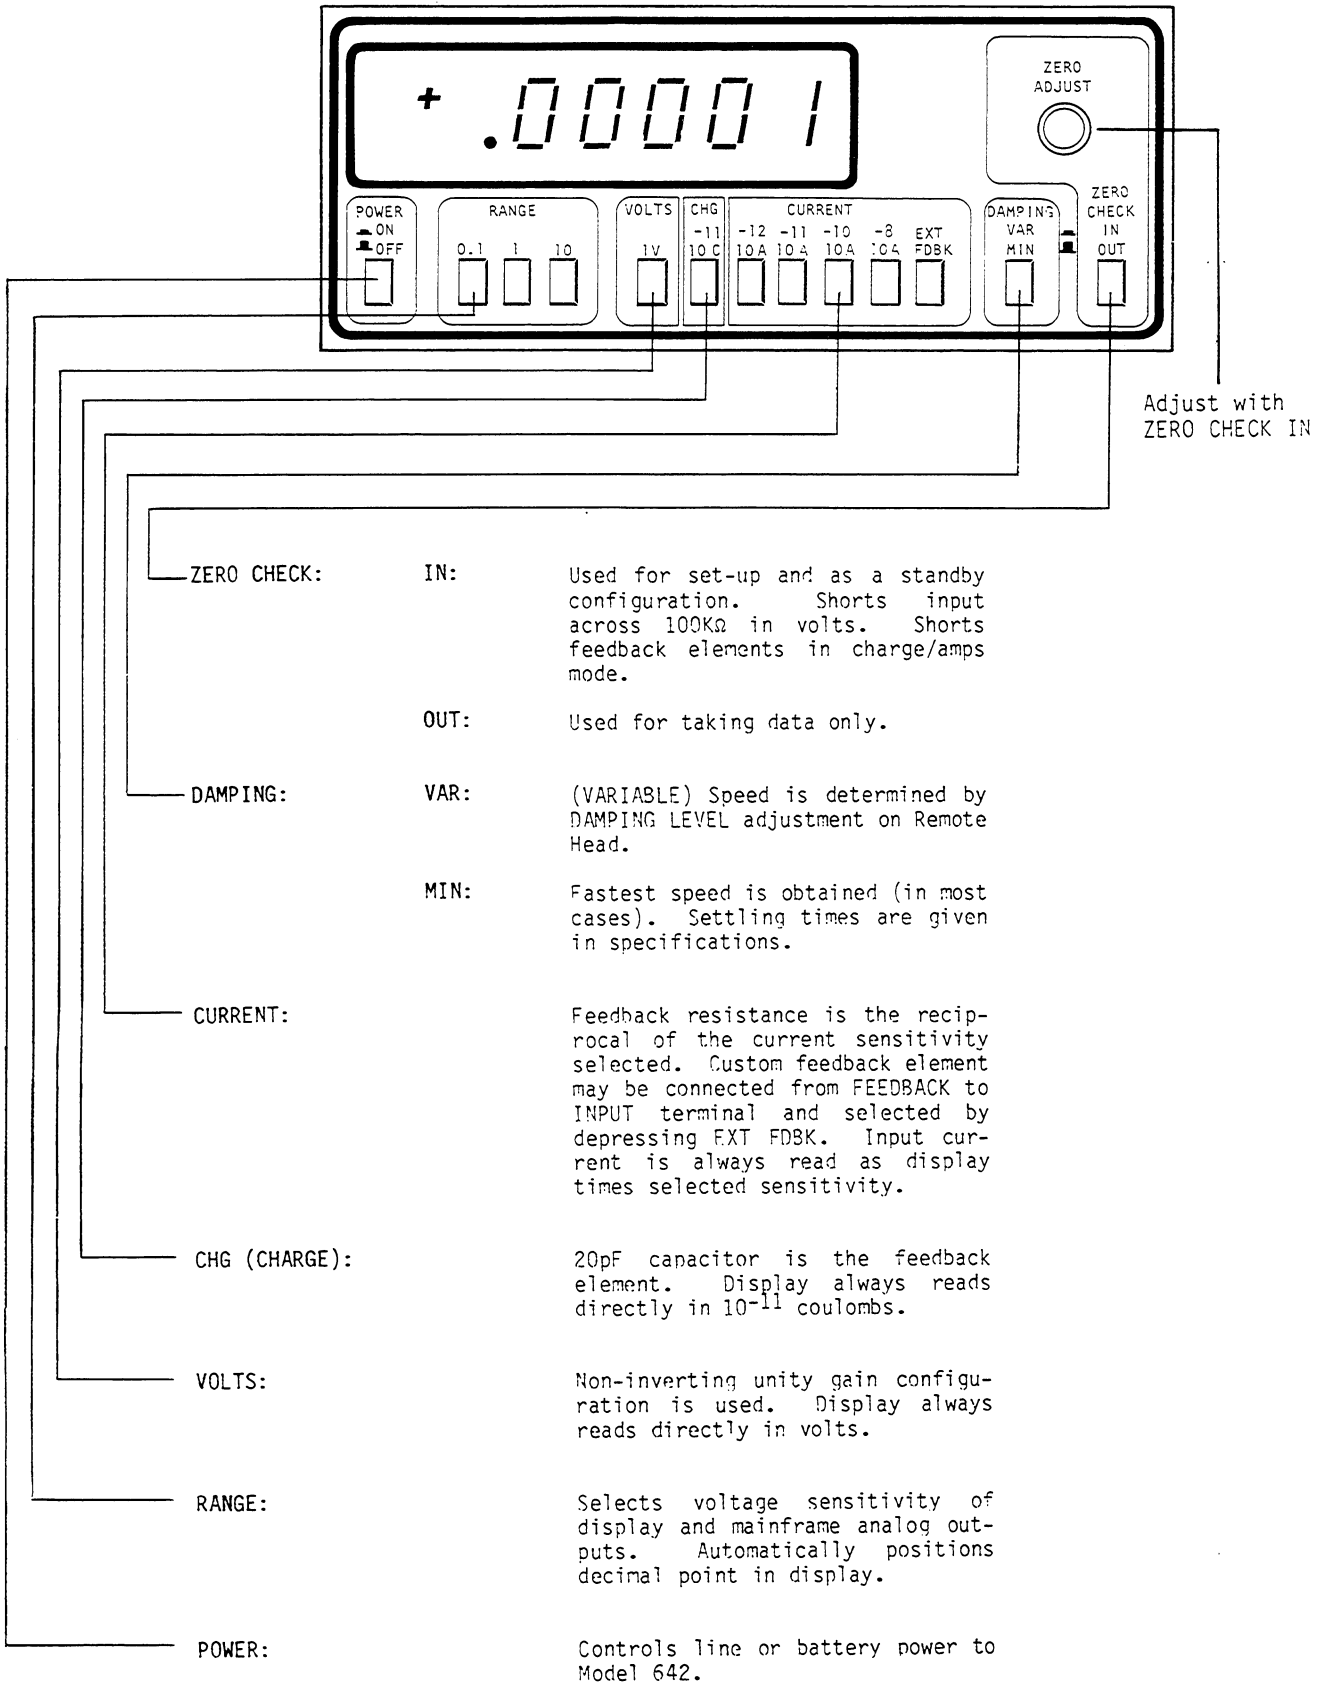

FIGURE 2-1. Summary of Mainframe Front Panel Controls.
2-17. The mainframe front panel controls are shown in Figure 2-1. A brief description of the function and use of each control is also included in this illustration.
2-37. The ZERO CHECK pushbutton and ZERO ADJUST knob (shown in Figure 2-1) are located on the mainframe front panel. Momentary or locking action of the ZERO CHECK pushbutton can be obtained, depending on how far the button is pressed. Pressing the pushbutton to IN position shorts the preamplifier feedback elements in current or charge mode and shorts the preamplifier input in voltage mode. During zero check in the voltage function, the input impedance is reduced from  $10^{16}\Omega$  to  $100K\Omega$ . With the Model 642 in zero check, an input offset will be displayed and can be compensated using the ZERO ADJUST knob. In general, the instrument should be in zero check except when actually making a measurement. It is especially important that the instrument be in zero check when turning power on or changing functions. It is normal to have to re-adjust zero when changing functions.
c. Set up Mainframe Controls. Refer to Figure 2-1 and proceed as follows: